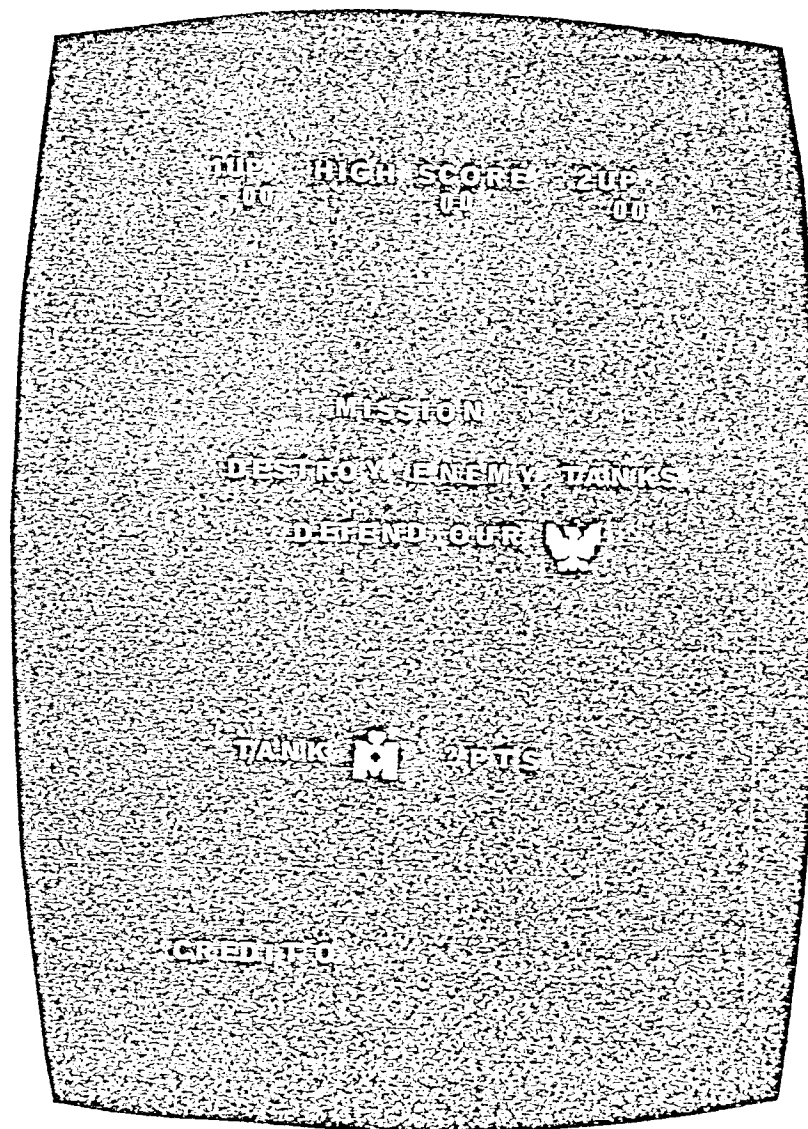

fig. 3-1 Attract Mode
- * Figure 3-1 shows the screen immediately after the machine is plugged in. This screen is called Attract Mode.